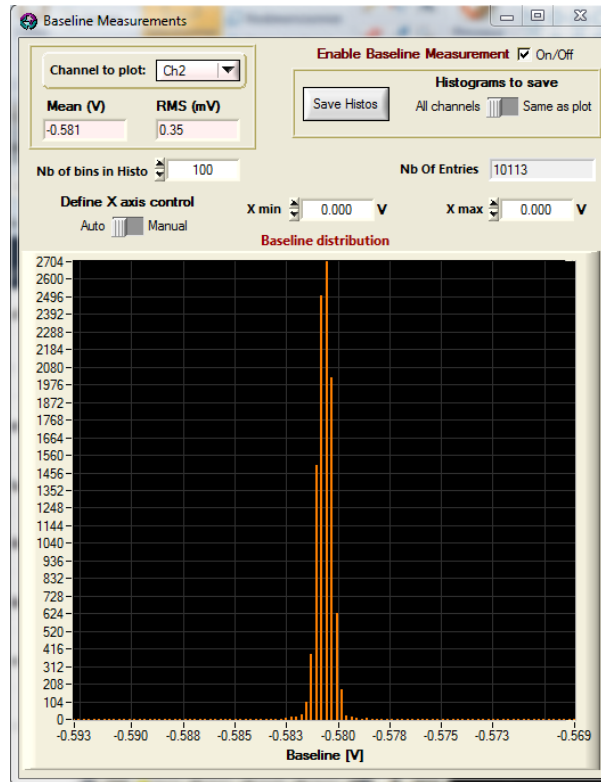

Figure 5.17: Baseline Measurements window
- **Baseline Measurements:** by clicking on this item, the user opens an eponym window (see **Figure 5.17**). In order to perform the measurement, the On/Off checkbox has to be checked.